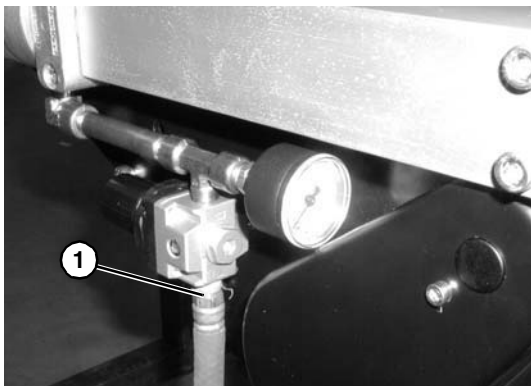

Figure 19
1. Remove air supply and remove hose (**Figure 19, item 1**) from center drive.